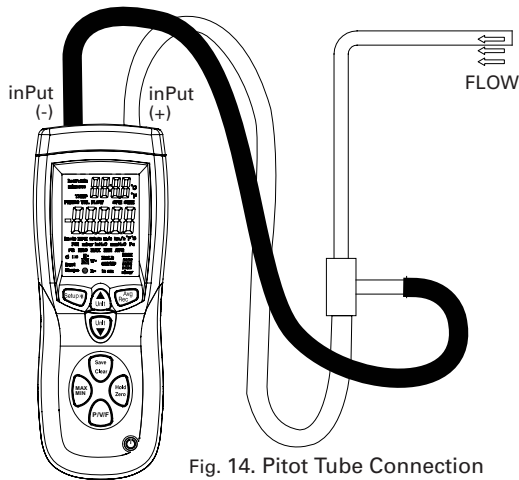

Fig. 14. Pitot Tube Connection
5. When taking a measurement, position the pitot tube tip against the airflow (Fig. 14) and ensure that the axis of the pitot tube is aligned with the duct within $\pm 10^\circ$. If the measured velocity value measures negative and shows “Error” on the display, check to make sure that the hoses are attached to the correct ports on the meter and the pitot.